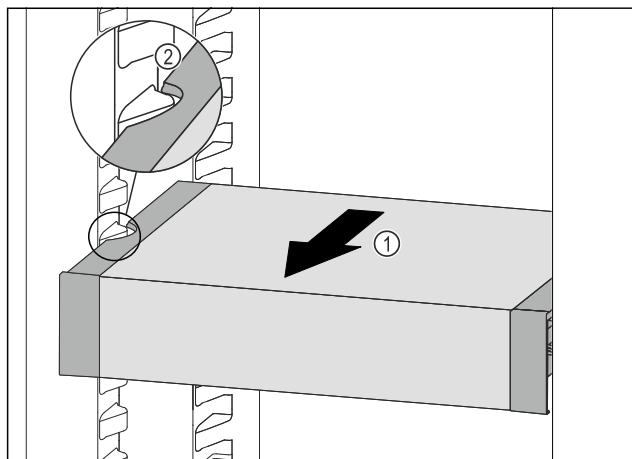

Fig. 94
- Pull VarioSafe forwards Fig. 94 (1) until the recesses in the side of the VarioSafe are at the level of the support rib in the fridge section. Fig. 94 (2)